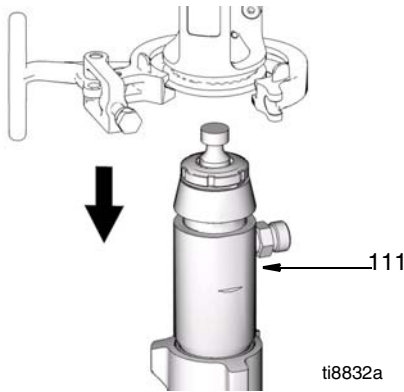

FIG. 19
9. (Fig. 19) Remove pump (111) from unit.